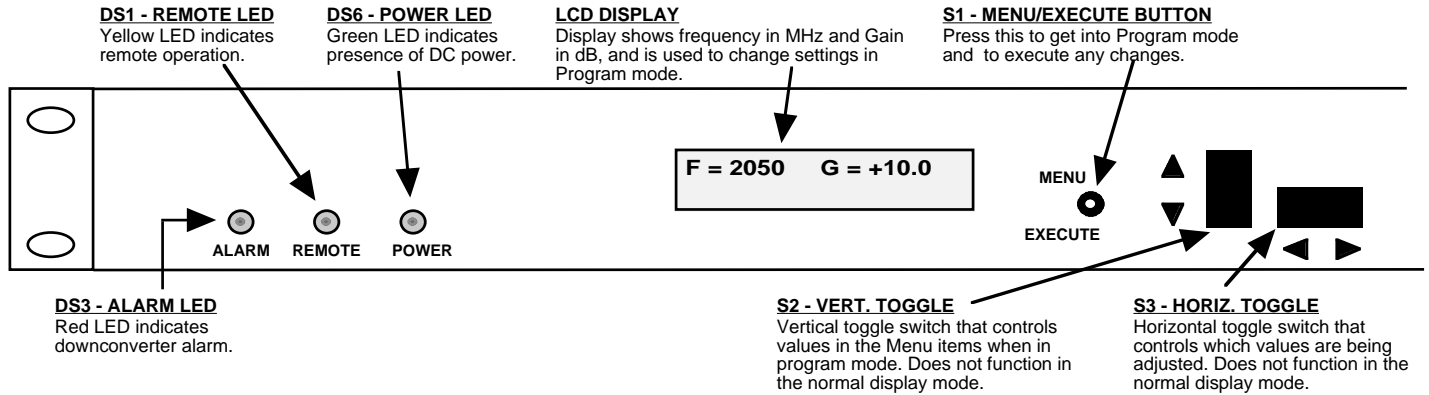

FIGURE 2.3 2016-26 Front Panel Controls and Indicators
6. Be sure DS6 (green, DC Power) is on and DS2 (red, Alarm) is off (Figure 2.3).
7. AC Fuse - The fuse is a 5 mm X 20 mm, 2 amp slow blow (Type T) and is inserted in the far slot in the drawer below the AC input as shown in Figure 2.3. There is a spare fuse in the near slot. If a fuse continues to open, the power supply is most likely defective.